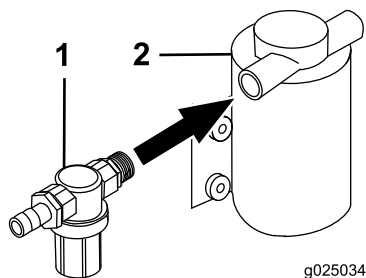

Figure 22
2. Assemble the pressure-filter assembly onto the rinse pump at the nipple (Figure 22).